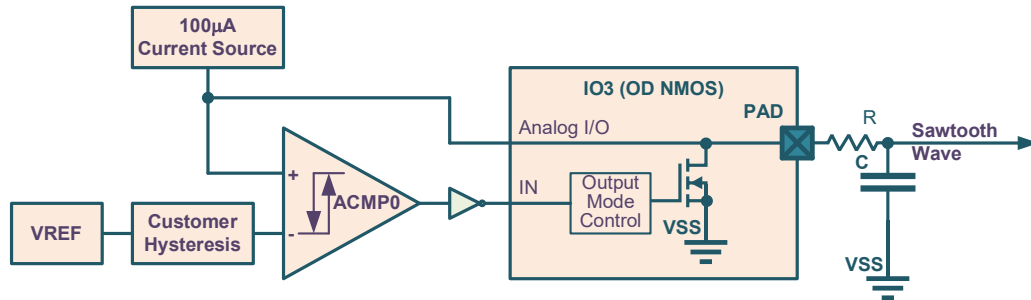
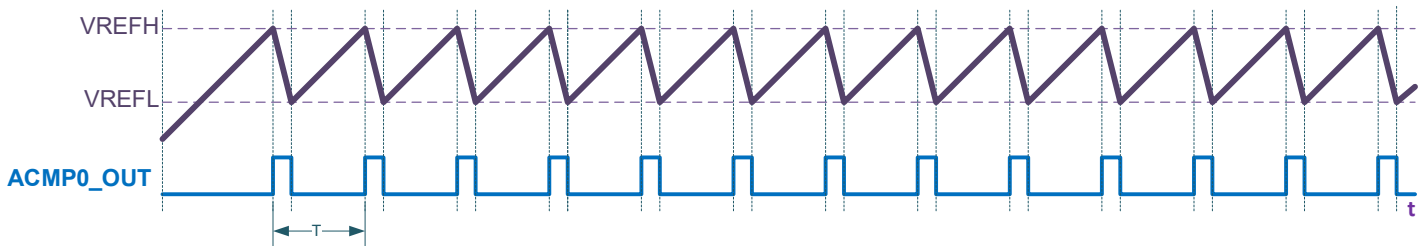

Figure 1.5. Sawtooth-waveform generator
Figure 1.6. Timing diagrams of sawtooth-waveform generator
The current application example shows the user how to use the analog part of the ALM1412. The design can generate sawtooth waveform (Figure 1.5). There is a possibility to set the value of the high (VREFH) and low (VREFL) levels of the generated signal with a user-setting hysteresis for the ACMP0 (Figure 1.6). The period (T) of signal is determined by the capacitance value (C). The design uses 100μA Current Source, which is directly connected to the pad of the IO3. The positive input of the ACMP0 is also connected to the IO3. At the same time, the IO3 is configured as a digital output with open drain (NMOS). The capacitor voltage increases with this current. When the voltage reaches the VREFH level, the ACMP0 switches its output to HIGH. Therefore, the NMOS of the IO3 is ON and discharges the capacitor (C). After reaching VREFL level, the ACMP0 switches its output to LOW. Consequently, the IO3 is in HIGH-Z, and the capacitor voltage begins increasing. This cycle repeats (see Figure 1.6).